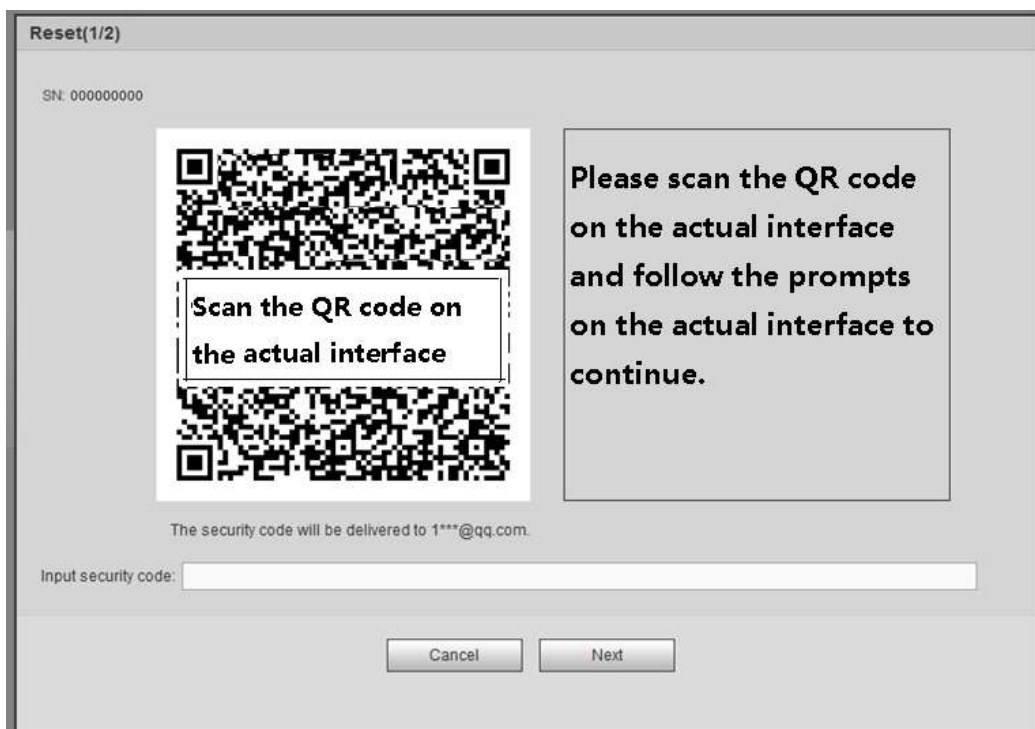

Figure 5-7
Step 2 Click **Forgot password**, enter the following interface. See Figure 5-7.